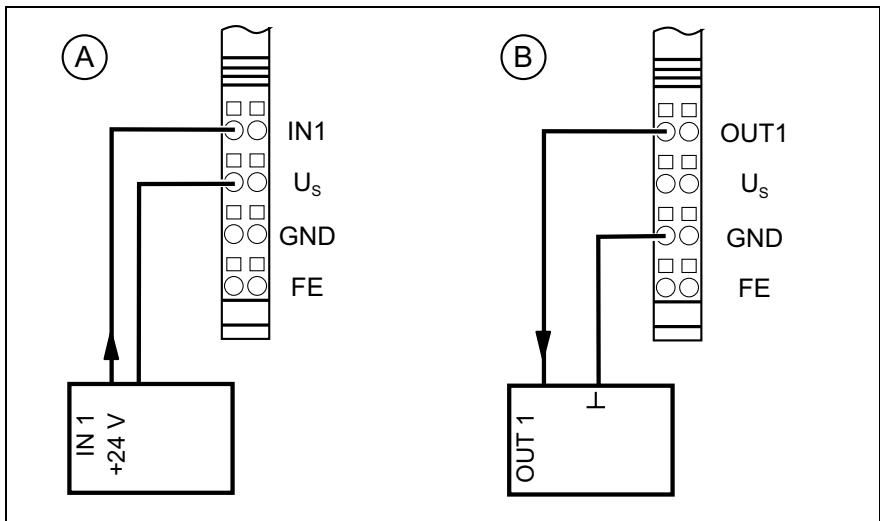

Fig. 6-15: 2-wire connection with digital devices
- Sensor** Fig. 6-15, A shows the connection of a 2-wire sensor. The sensor signal is supplied to terminal point IN1. The sensor is supplied by the voltage U_s .
- Actuator** Fig. 6-15, B shows the connection of an actuator. The actuator is supplied with voltage from the output OUT1. The load is directly connected across the output.